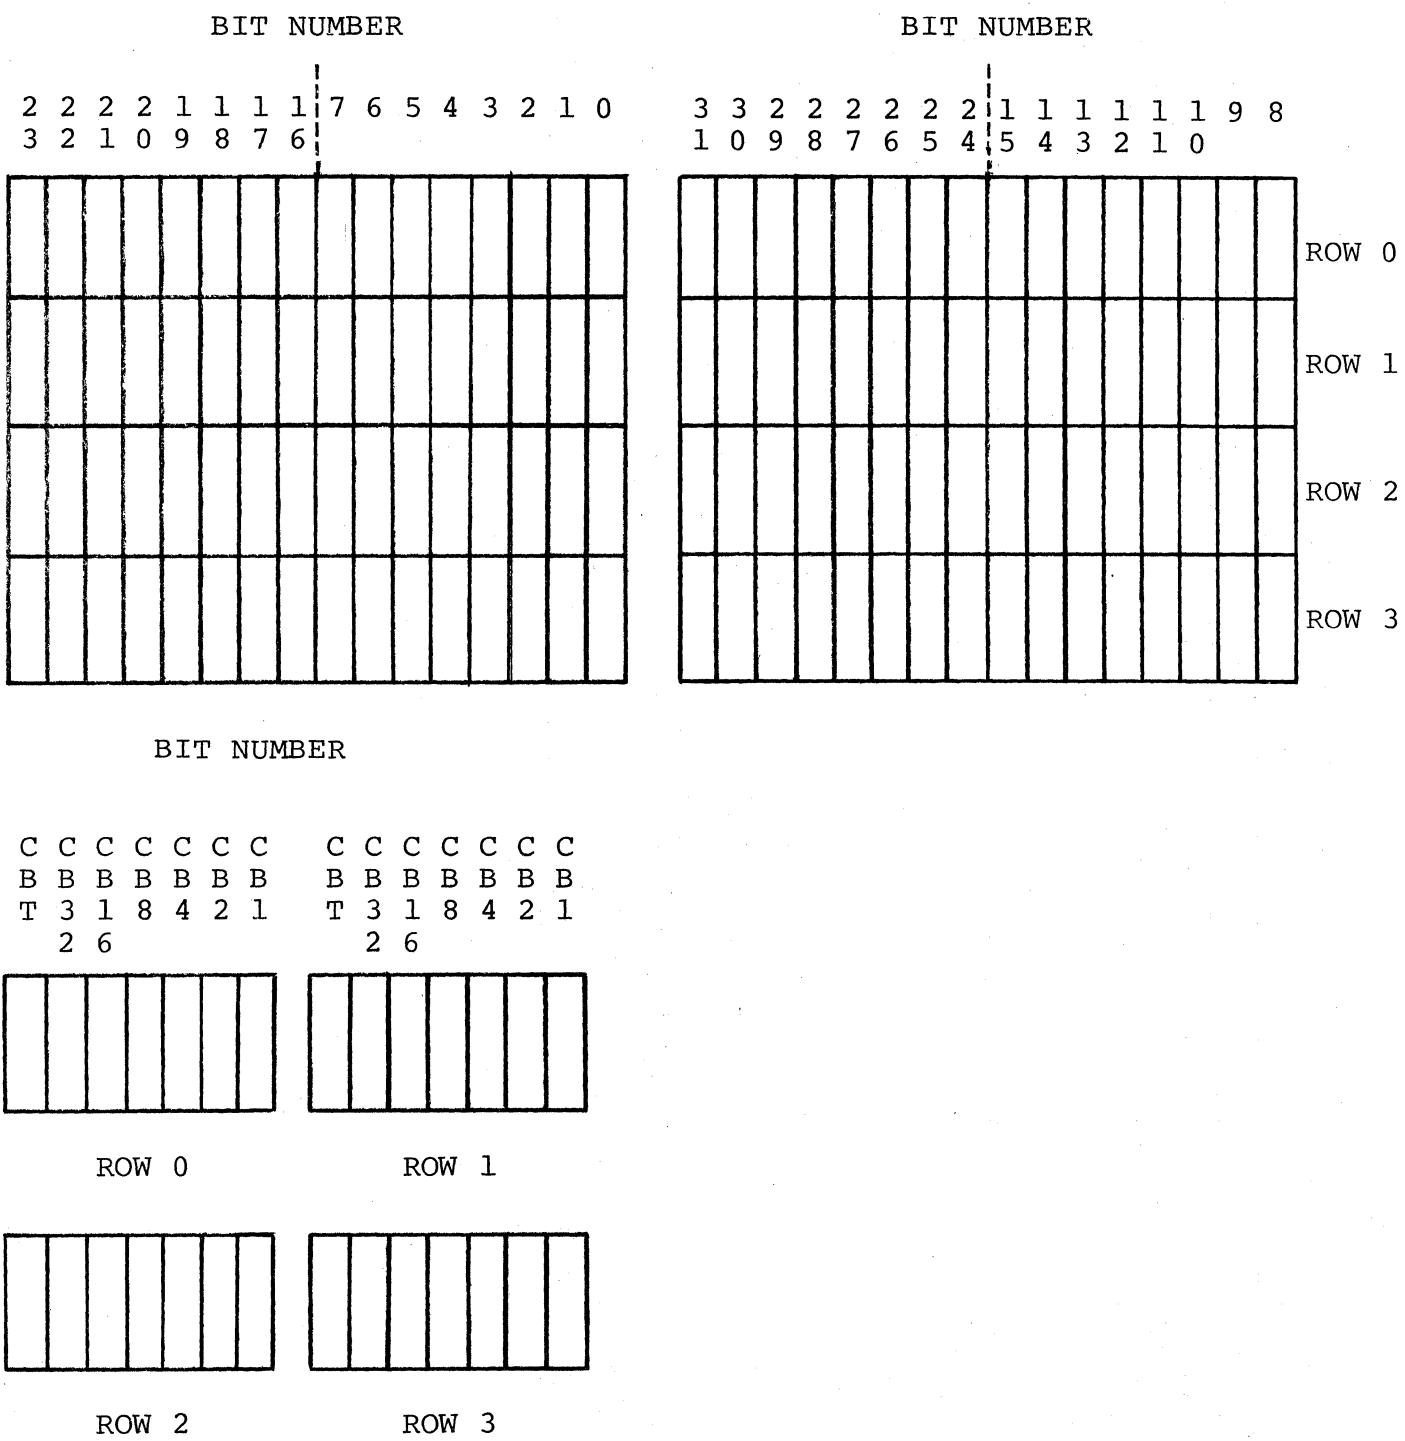

Figure 3-3 NS 70/75 BIT LOCATOR CHART
- RAM failure, single bit. The diagnostic procedure outlined in Section IV can point to the bit and row address of a single bit failure. By utilizing the Bit Locator chart, Figure 3-3, the failing RAM can be located and replaced with the on-board spare RAM.